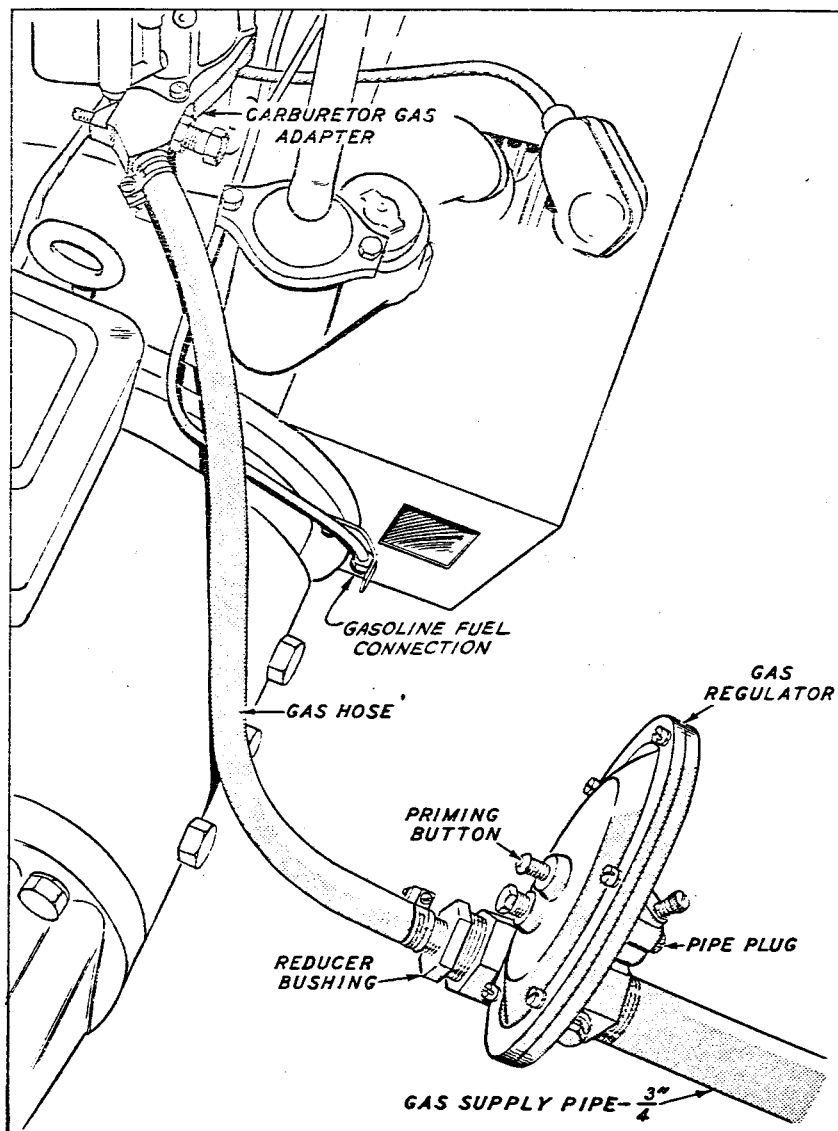

Fig. 12 Fuel Connection
**FUEL CONNECTION.** - The standard plant is supplied with a separate 5 gallon (U.S. measure) gasoline can. After installing the fuel shut off valve in the fuel tank outlet, connect the flexible line. Connect the non-swivel end first, to the plant fuel inlet connection at the left side of the generator (Fig. 12). Connect the swivel end of the line to the fuel tank shut off valve. Do not reverse these line connections, as the threads on opposite ends of the line are different. Use care to start the theads straight and tighten only enough to prevent leakage.
To start the plant the first time, it may be necessary to press the regulator priming button (Fig. 12). The plant was test run on 1000 BTU gas, and some adjustment of the carburetor may be necessary if a different BTU content gas is used. Refer to ADJUSTMENTS.